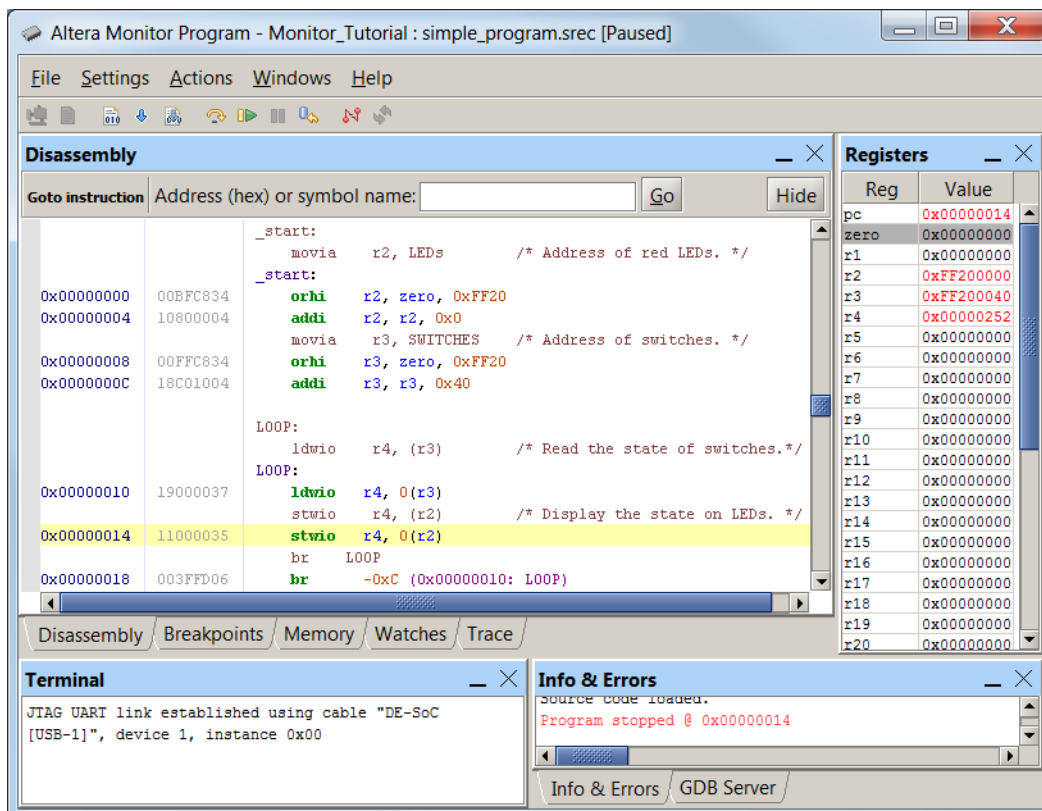

Figure 15. The Monitor Program display after the program has been stopped.
Figure 15 shows an example of what the display may look like when the program is halted by using the Stop command. The display highlights in yellow the next program instruction to be executed, which is at address 0x00000014, and highlights in red the values in the processor registers that have changed since the last program stoppage. Other screens in the Monitor Program are also updated, which will be described in later parts of this tutorial.
In Figure 15, the Disassembly window shows the machine instructions for our program. The leftmost column in the window gives the memory addresses, the middle column displays the machine code at these addresses, and the rightmost column shows both the original source code for the instruction, in a brown color, and the disassembled
1. In the Disassembly window, scroll to display the instruction that will have the breakpoint. For example, in the window in Figure 15 scroll to the Branch instruction at address 0x00000018.